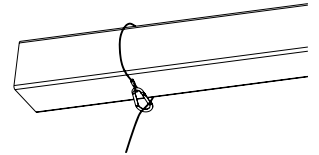

Fig. 16
4. Fasten the other end of the wire rope to the outlet box or the mounting structure of the outlet box (Figure 16).